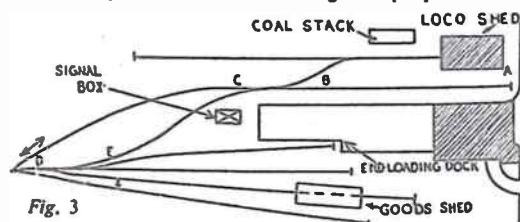
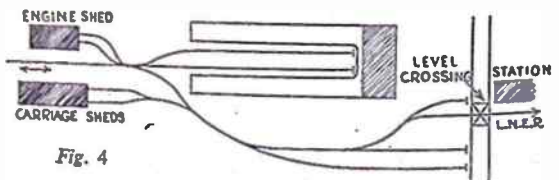

Fig. 3
Fig. 4
Another track example is shown in Fig. 3, in which the train on arrival draws to a stand between points (A) and (B), and after detrainning its passengers is propelled by its engine to (C-D), where the locomotive is uncoupled and run round its train by way of the loop (E); the train being then propelled back
Taking next Figs. 4, 5, 6 and 7, which are slightly more complex terminal layouts, Fig. 4 has some similarities to Fig. 3, but includes an engine shed and carriage sheds, both of which are both useful and becoming a small railway such as the Nidd Valley Light Railway;